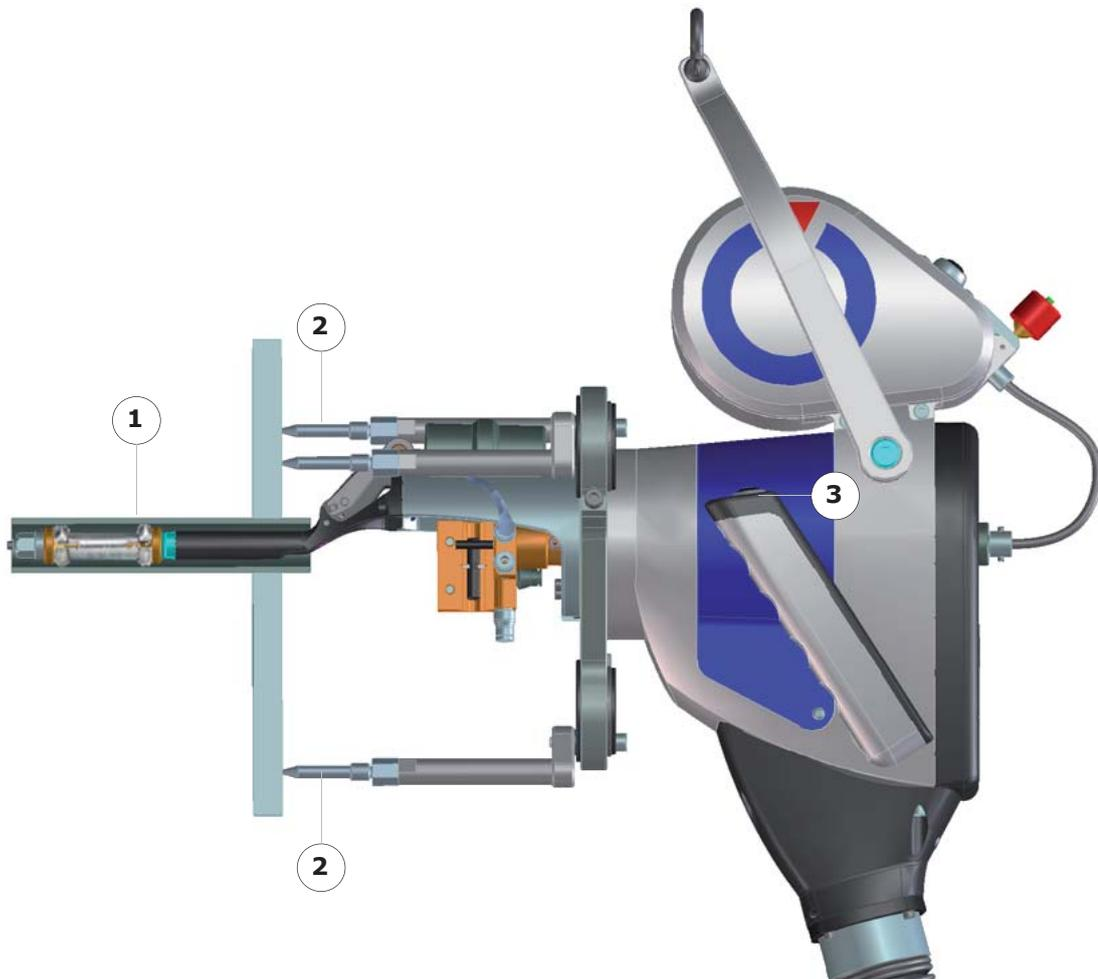

Fig.5.39 - Self-securing system in place
- Insert the expansion mandrel into the tube to be welded (Fig.5.39 - 1).
- Lay the support legs flat against the plate (Fig.5.39 - 2).
- Operate the clamping mechanism by pressing the button (Fig.5.39 - 3).